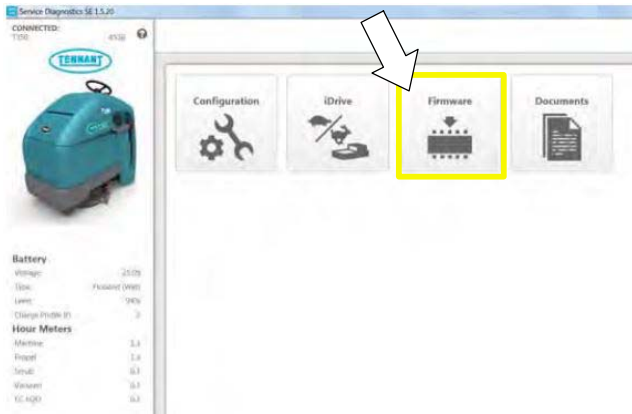

Fig. 5
5. If firmware updates are required, the “Firmware” button on the home screen will be highlighted in yellow as shown (Figure 5). Press the Firmware button to update the machine’s firmware.